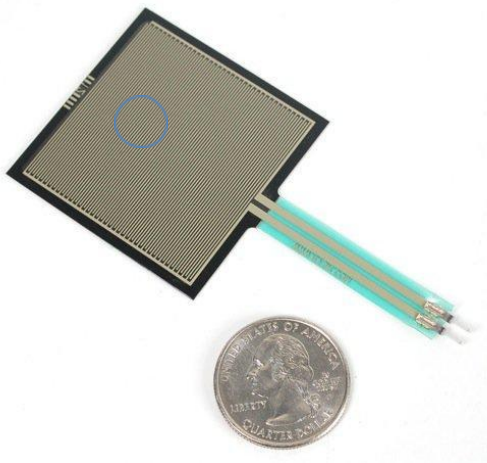

**Figure 6.** A non-inverting amplifier. The gain of the amplifier is  $(R1+R2)/R1$ .
- Using the other op-amp on the LF353, **(In-lab Performance 4A: 2 Points)** construct a non-inverting amplifier with a gain of 50 as shown in Figure 6. Let  $R1 = 1k$ , and use a 100 k trim pot for R2. The gain of this circuit is  $(R1+R2)/R1$ .